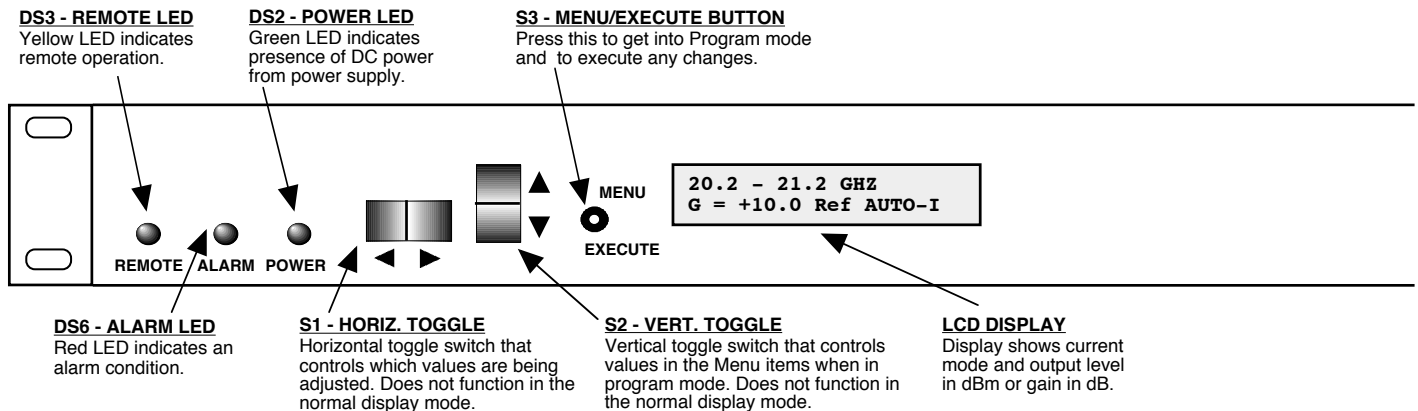

FIGURE 2.2 3116-202#-1700 Front Panel Controls and Indicators
6. Be sure DS2 (green, DC Power) is on and DS6 (red, Alarm) is off (Figure 2.2).
Alarm indications appear on the LEDs (see Figure 2.2).